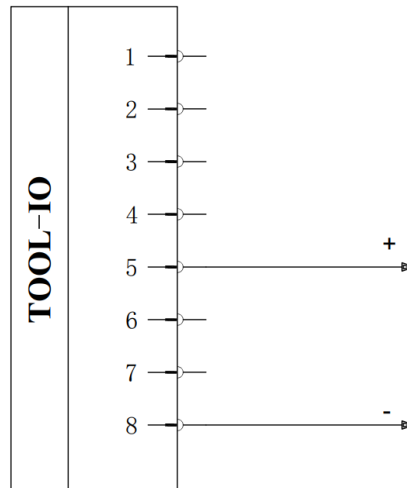

Figure 2-33 : Single pin power mode wiring
2) Wiring method: as shown in **Figure 2-33** .